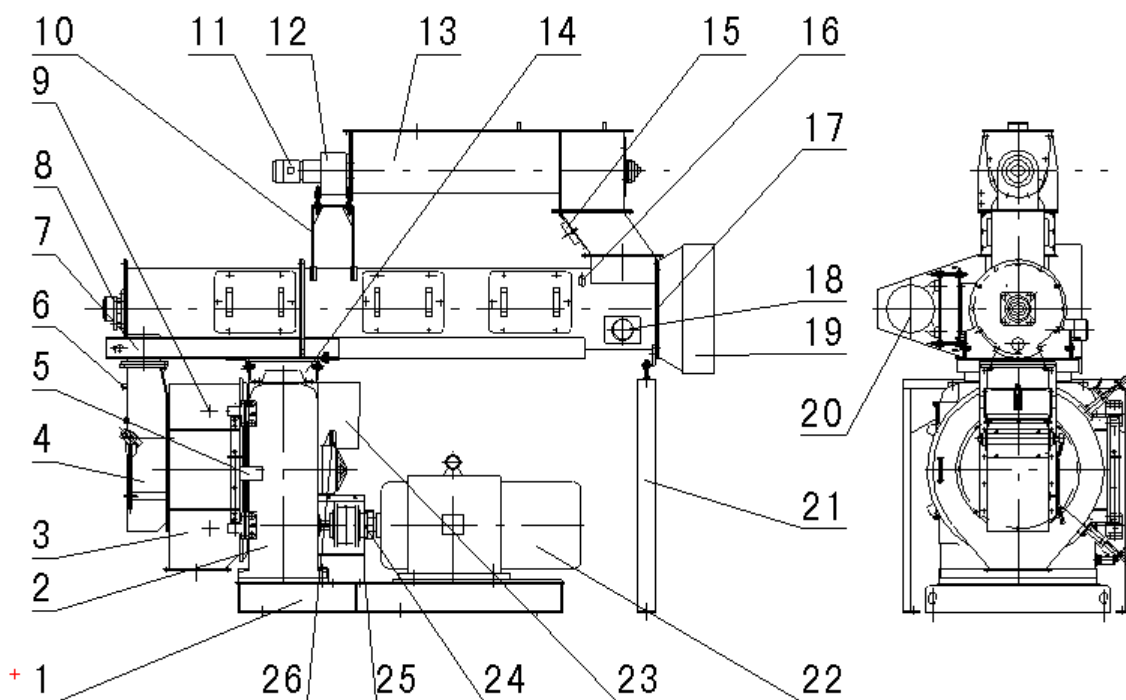
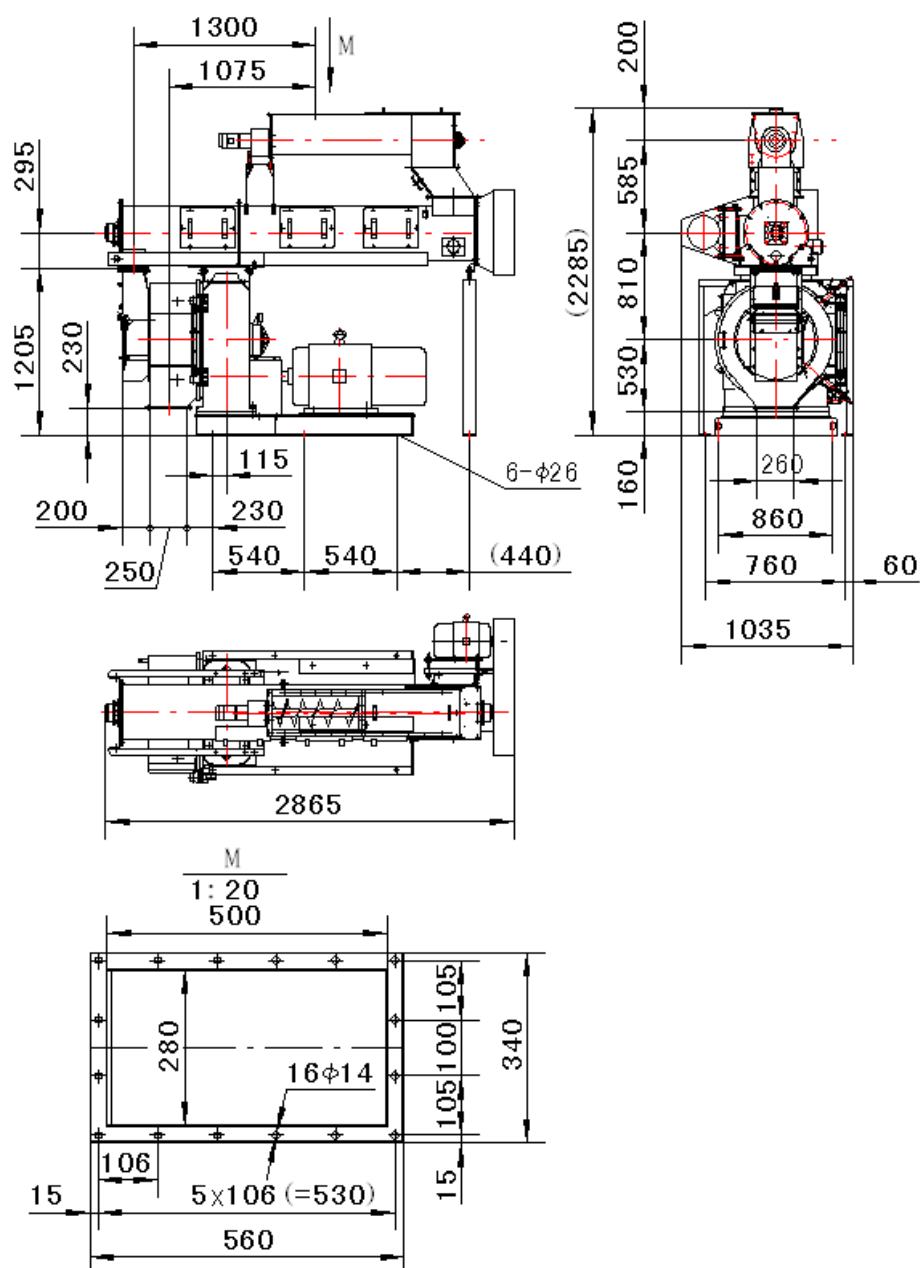

Figure 1 SZLH350 PELLET MILL STRUCTURE
Figure 2 SZLH350 Sample
See Figure 1 for the main structure of the machine and Figure 2 for the schematic drawing. It mainly consists of systems of the feeding, conditioning, pelleting, driving and lubrication. Mixed material of less than 15% moisture content is fed from the hopper into the feeder screw through magnetic separator and enters into the conditioner with proper flow rate adjusted by the conversion speed-adjusting motor. The iron impurities in the material are removed by the safety magnet. The material is mixed with steam in the conditioner. Molasses or oil, if needed, can be added and mixed with steam to be conditioned. (The oil adding volume should not be more than 3%, otherwise, it's hard to form pellets.) The conditioned material temperature can be $65\text{-}85^{\circ}\text{C}$ and moisture content 14-16%. Then the material enters into the pellet chamber through the chute and is pelleted.
4.1.2 The equipment must be installed on the firm foundation. Dig the foundation according to the base size on the schematic diagram (see Figure 2), pour cobble concrete and screw the foundation bolt on. Some good practice should be followed when installing the pellet mill on the floor to make sure that vibration of machine during the normal run can be absorbed after the installation.